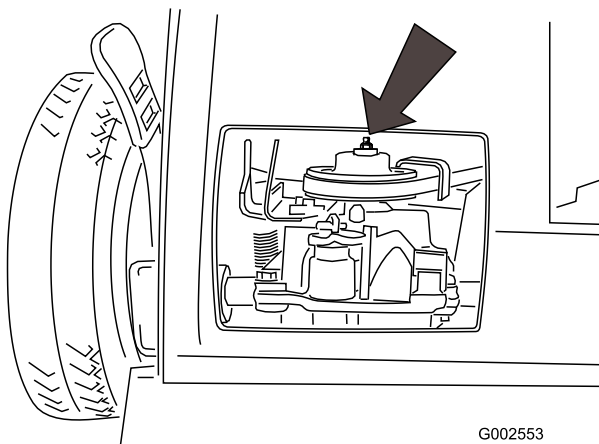

Figure 20
2. Install a grease gun onto the fitting through the belt cover opening (Figure 20).